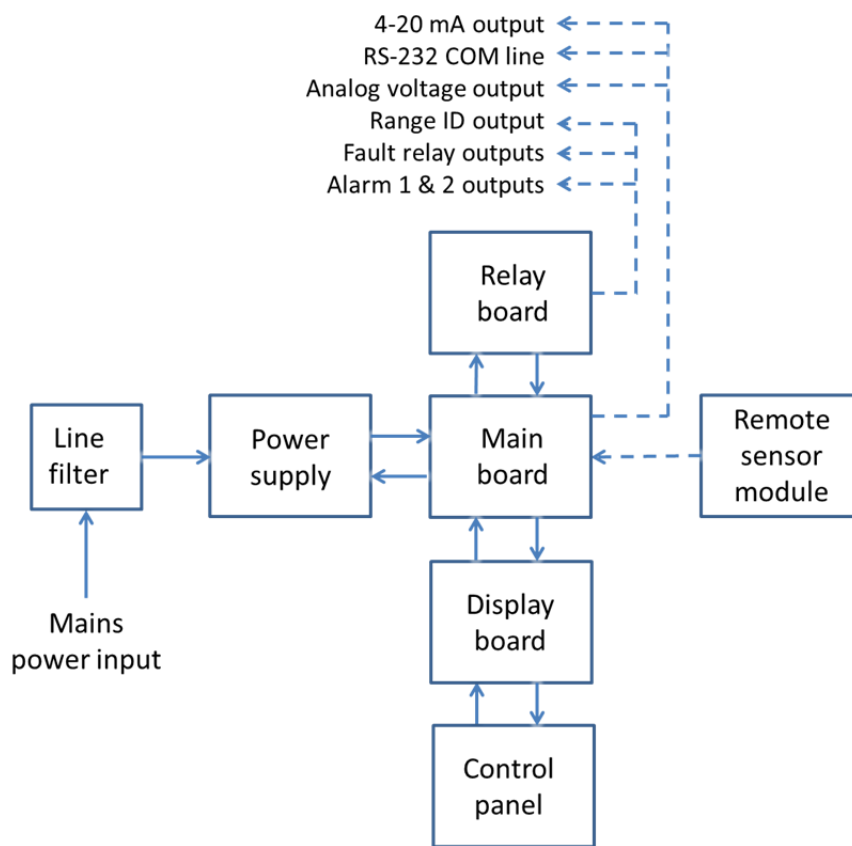

Fig. 6, System configuration
The separate remote sensor module (RSM) houses the sensor, the heater assembly, and the delivery system for the gas sample. Gas is directed in a continuous flow through the sampling system to the oxygen sensor. The sensor determines the oxygen concentration of the gas in real time. The RSM is an integral part of the Model 3100 analyzer system (see Figure 6). It is available in two (2) configurations: pump-driven and positive pressure-driven. Refer to the Remote Sensor Module instruction manual for more details.